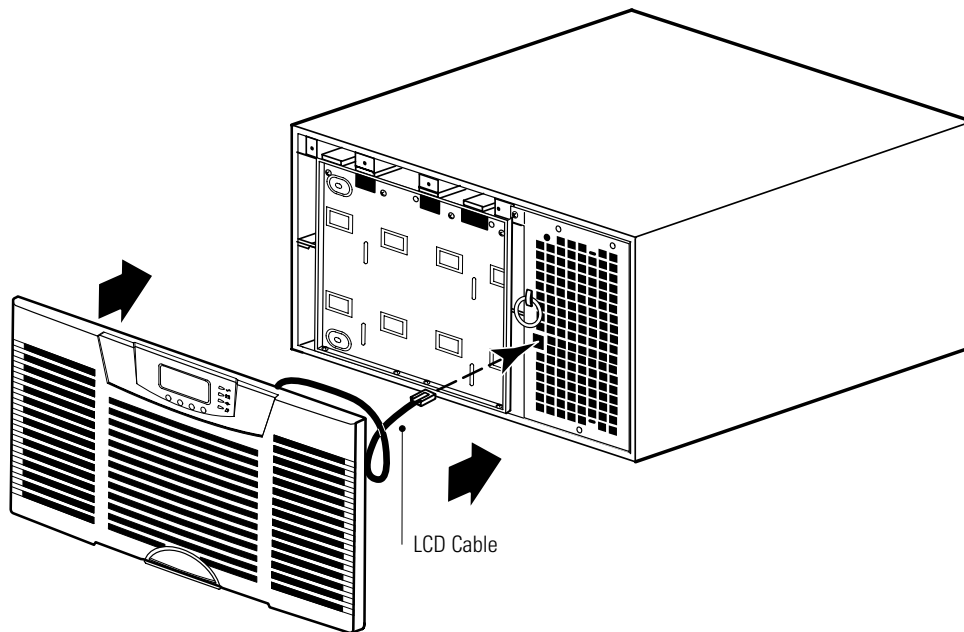

Figure 57. Replacing the UPS Front Cover
7. Replace the UPS front cover (see Figure 57):